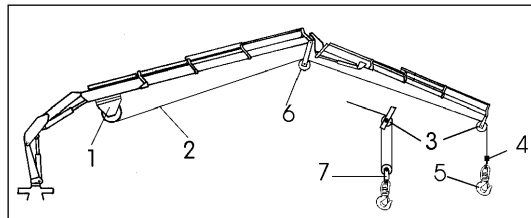

fig. 23
**Nomenclature of winch unit (fig. 23)**